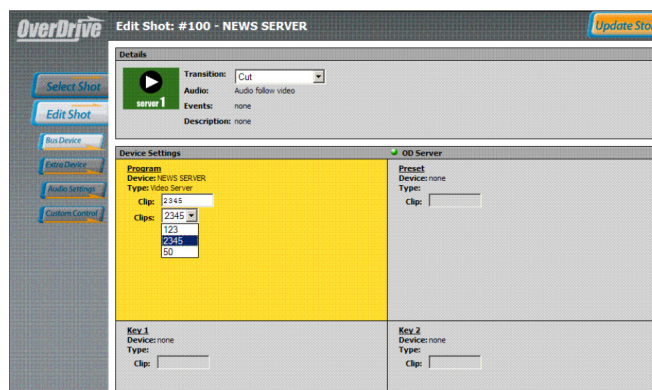

Figure 4.2 OverDrive® ActiveX Edit Shot dialog box
The first method for integrating SMS into newsroom workflows uses OverDrive® template features within the newsroom desktop client ❶. OverDrive® templates are displayed in the newsroom client via an ActiveX plug-in. To insert a server clip into a particular rundown event, the operator simply selects the clip from the drop-down list presented in the OverDrive® ActiveX **Edit Shot** dialog box (Figure 4.2).